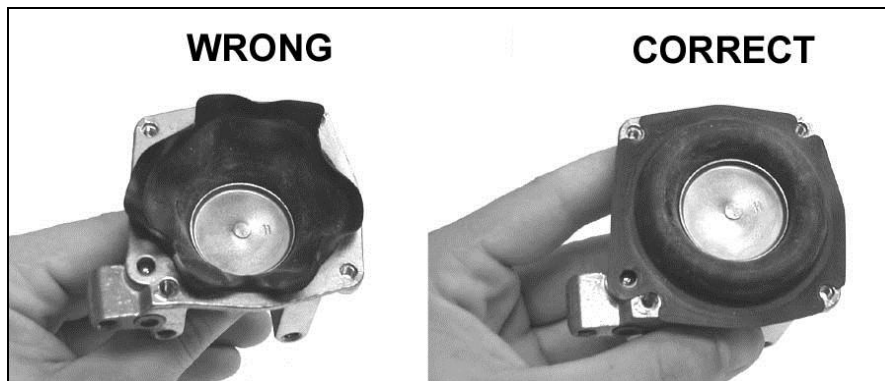

Figure 17
- TIP:** To make reassembling the diaphragm easier, push the diaphragm arm into the housing and form the diaphragm into a “mushroom” shape (Figure 17). Then position the diaphragm over the bolt holes and vacuum port. Hold the diaphragm in that position with your fingers while inserting the spring, cover, and bolts to avoid disturbing the position of the diaphragm.